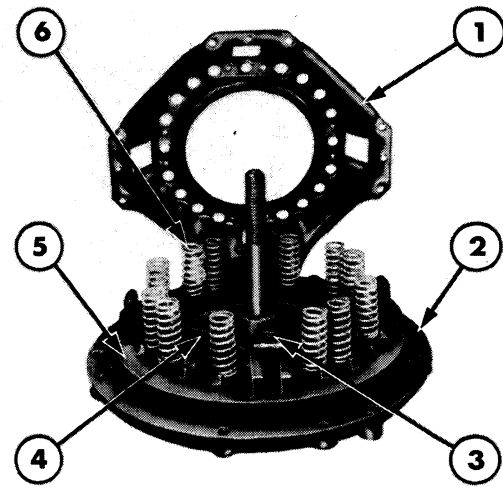

Figure 5
5. Lift the clutch cover and remove the pressure springs from their locations on the pressure plate, Figure 5.